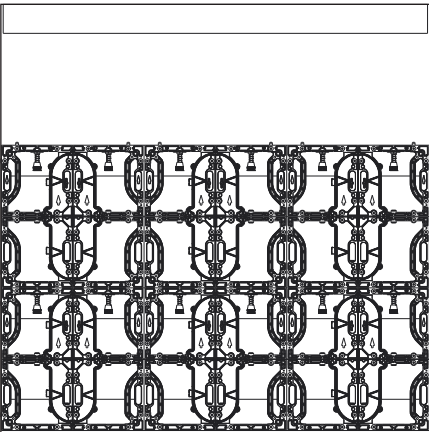

Figure 7: Install Second Row of Panels
8. Start on the next row after the bottom row is completed, working from the center out. Refer to Figure 7.